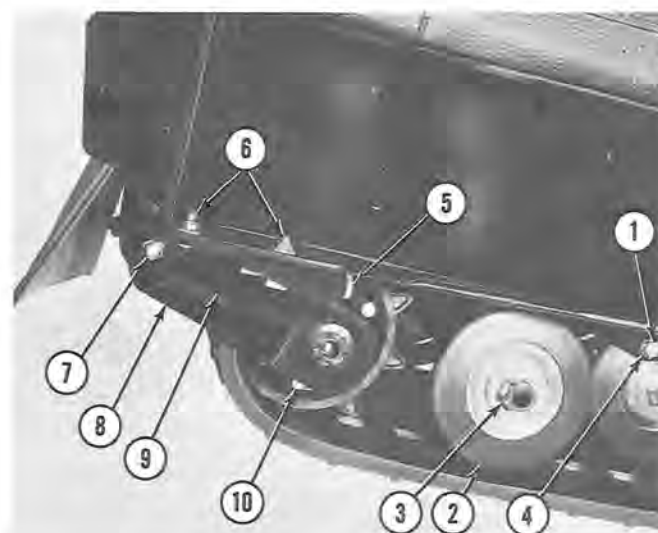

Figure 14
- Remove the locknut (3, figure 14) securing the bogie wheel assembly (2) to the axle shaft and remove the wheel.
- During reassembly, torque the locknut (3) to 28 foot-pounds. Be certain the wheel assembly (2) is installed with grease fittings on the outside.
- Remove the screws (1, figure 14) and lock-washers securing the bogie wheel support shaft to the main frame.
- Release track tension by loosening the right- and left-hand adjusting nuts (6, figure 14) and the adjusting bolts (5).
- Remove the right- and left-hand adjusting angle locknuts (6), washers and carriage bolts securing the traction belt take-up assembly to the main frame.